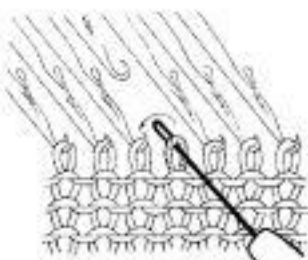

Fig. 39-4
- d) Lift the 'eye' of the Transfer Tool out of the needle hook and place it into the hook of the next needle. (Fig. 39-4)